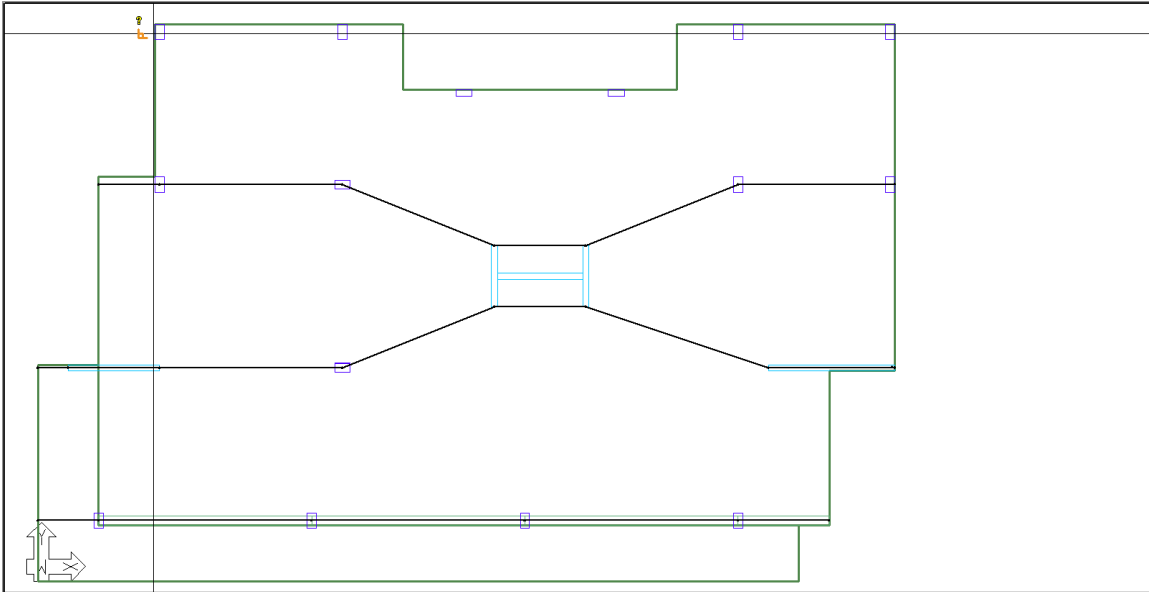

FIGURE 9-13
- Hover your mouse over the left slab edge to the left of the upper-left most column as shown in **FIGURE 9-13**.